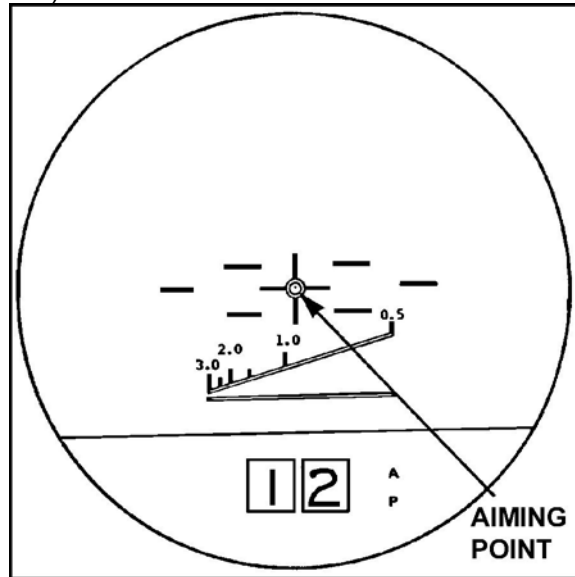

Figure 3. Reticle.
- e. Look through the gunner's eyepiece. Use the gunner's controls to align the reticle on the center of the target (Figure 3).